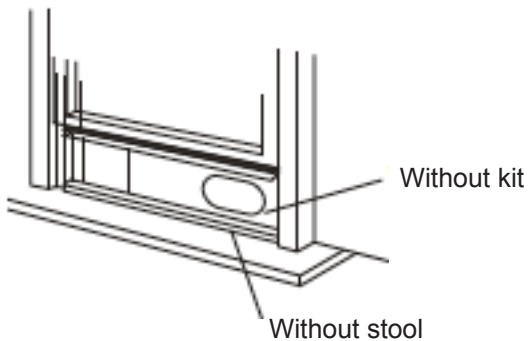

Fig. 10
3. Cut the foam seal(adhesive type) to the proper length and attach it on the top of the window. Shown as in Fig.10